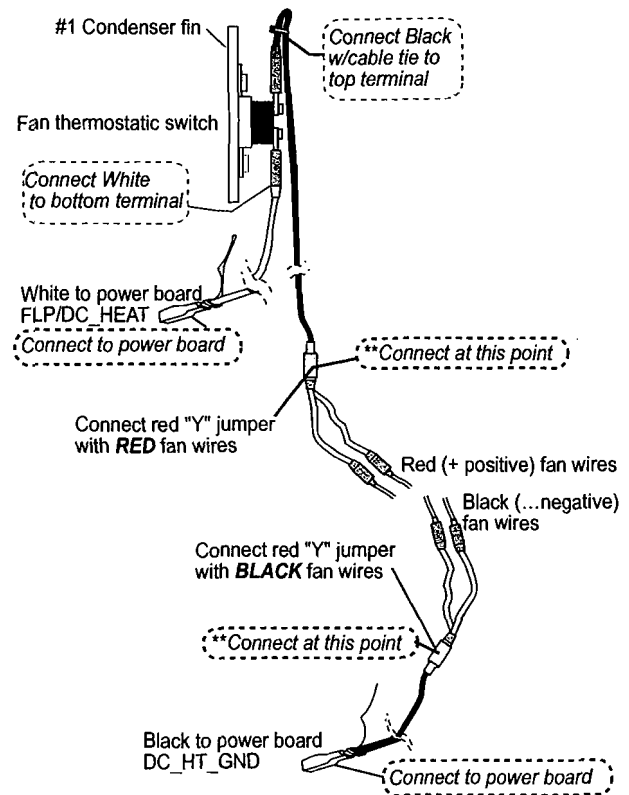

Figure 17. Wiring connections for fans.
Observe correct polarity by making switch, fans and power board connections as outlined in Figure 17. Fans will not turn on if connections are not correct.
1. Follow directions on Figure 17 to connect fans and thermostatic switch to wiring.